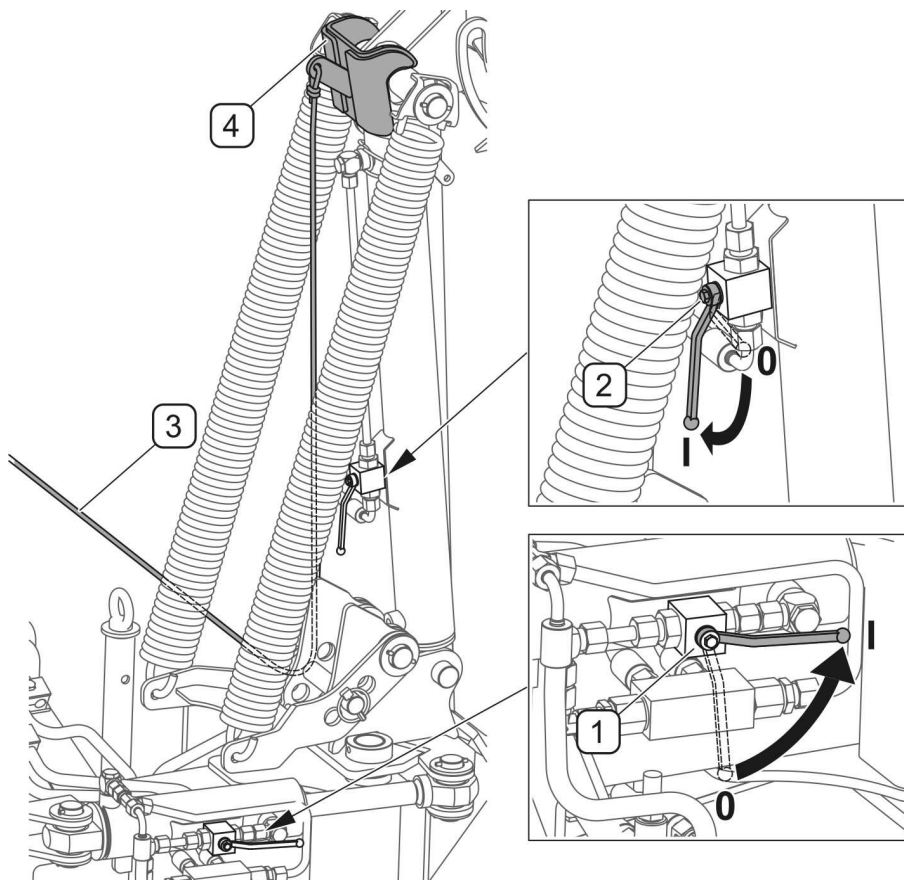

FIG. 4.6A Setting mower in working position
- Set the tipping and lifting cylinders valves (1) and (2) in open position „I” (FIG. 4.6A),